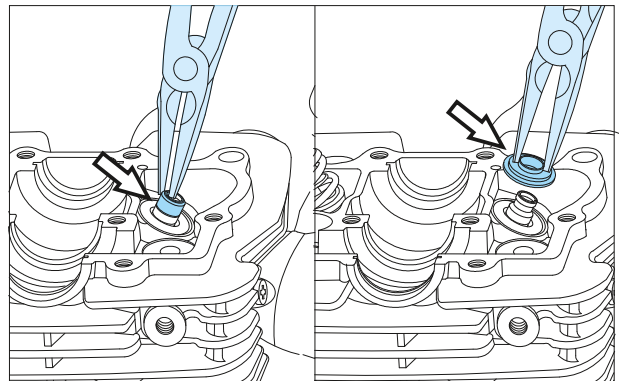

Fig. 3.64
- Take out the retainer valve spring.(Fig. 3.64 )
- Remove the Spring valve outer and Spring valve inner . (Fig. 3.64)